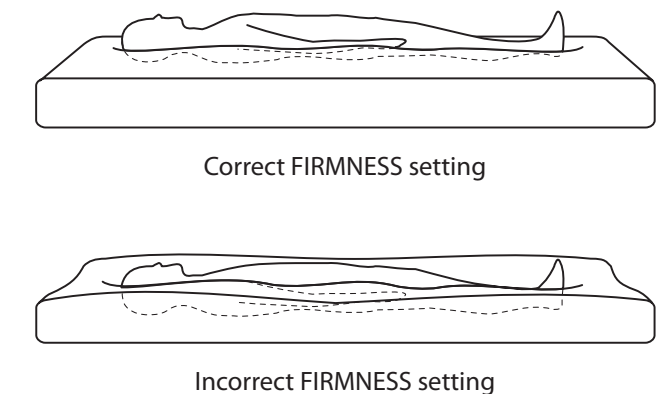

Figure 8—Visual Inflation Check (supine)
9. Adjust the FIRMNESS setting as needed, while the patient is in the supine position (figure 8).